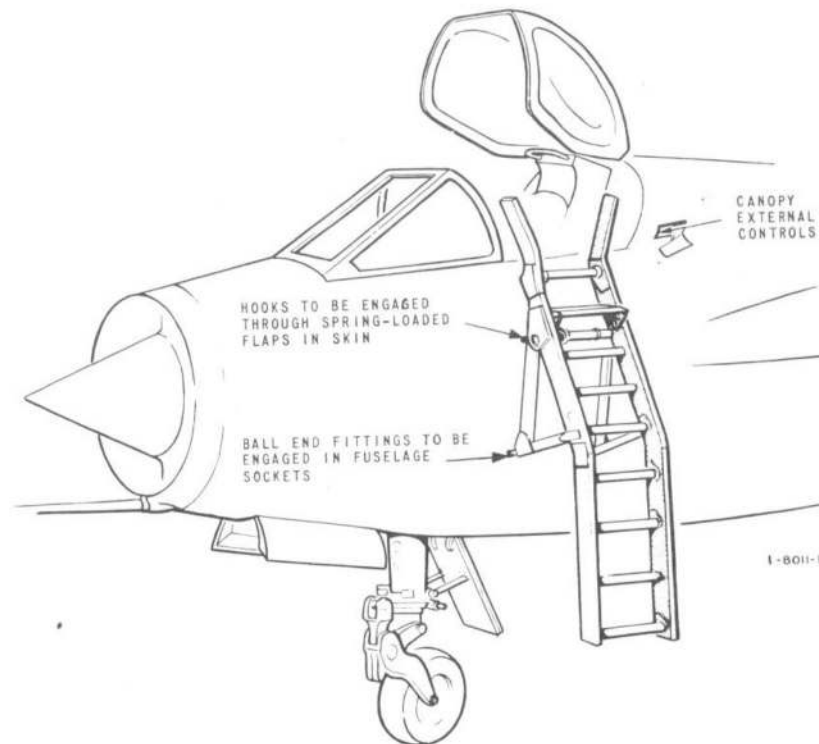
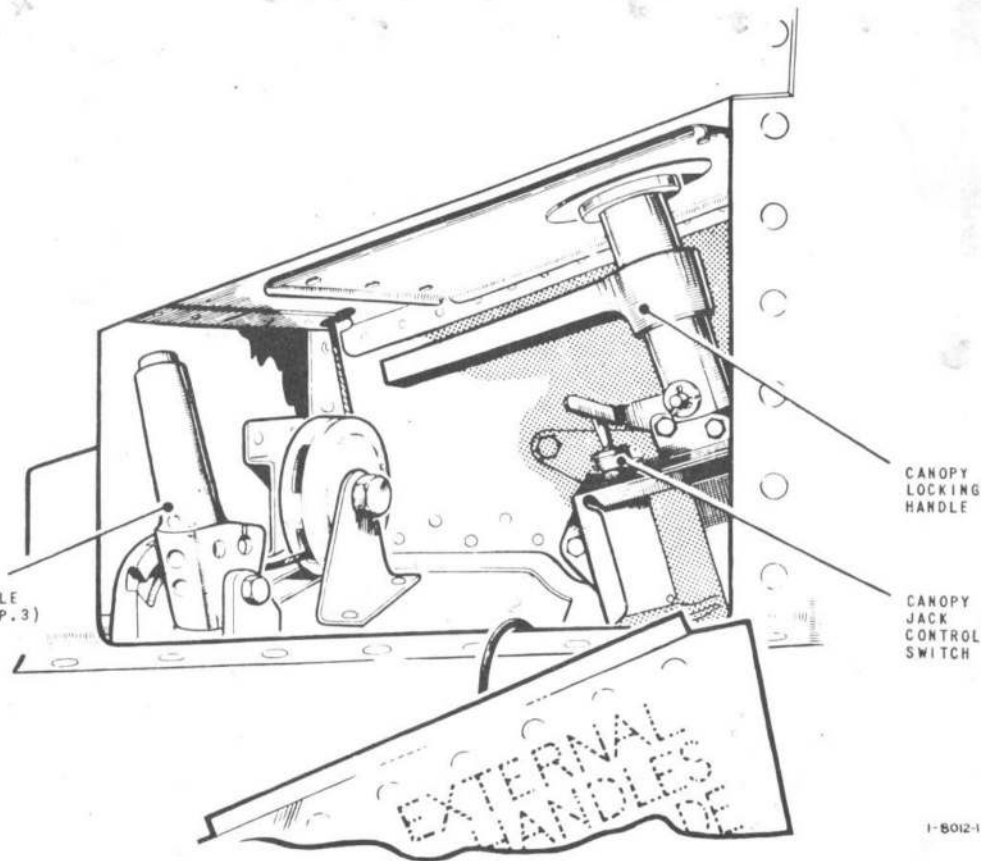

Fig.1. Cockpit access ladder
Fig.2. Canopy external controls
1. Entry to the cockpit is gained by climbing a ladder (Sect.2, Chap.4) placed against the port side of the front fuselage (fig.1), and opening the canopy by operating the external controls (fig.2). The ladder pick-up points are indicated by stencilling on the skin, and the canopy external controls are behind a small detachable panel, similarly identified, in the port side of the spine immediately aft of the cockpit. The canopy is opened by first turning the locking handle to the unlocked position, and then operating the adjacent spring loaded toggle switch controlling the canopy jack. The locking handle also controls inflation of the canopy seal. A warning buzzer sounds whenever the canopy switch is operated, and two amber warning lamps - on the windscreen starboard member - are illuminated if the canopy is unlocked. The canopy can also be closed and locked by operation of the external controls.